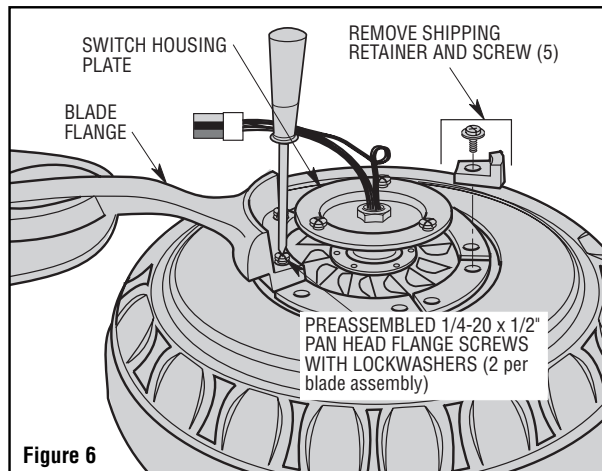

Figure 6
- Carefully unscrew the five shipping retainers from the motor housing. Discard the five screws and shipping retainers (Figure 6).
- Attach the blade assembly to the motor hub using the two 1/4-20 x 1/2" pan head flange screws with lockwashers in flange. Make sure the screws are tightened securely (Figure 6).